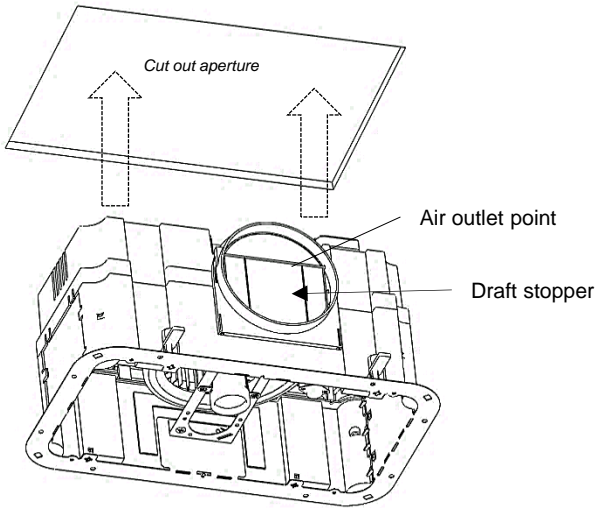

Fig.3
- 5) Gently insert the unit into the cut out hole ensuring to move the side mounting clips inwards so that the body can pass through the hole without damaging the plasterboard. Tighten the screws for the clips ensuring that the unit is held securely in place by 4 x clips. Additional screws can be applied around the metal flange plate to hold the unit to the ceiling. (Fig.3)